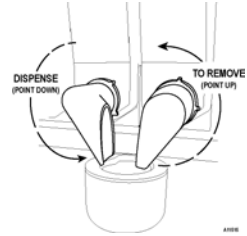

Figure 5b. Product Chute
1. Rotate the product chute so that it points up (loading position). See **Figure 5b**.